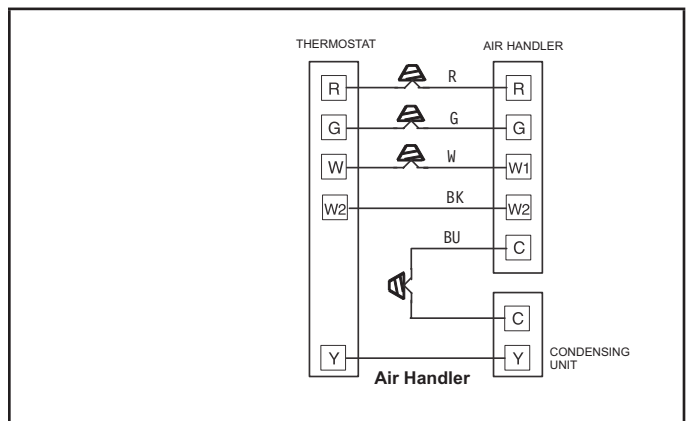

FIGURE 9. Field Power Supply Wiring
- 3 - For applications using a two-stage room thermostat and/or an outdoor thermostat, connect wiring as shown in FIGURE 9.